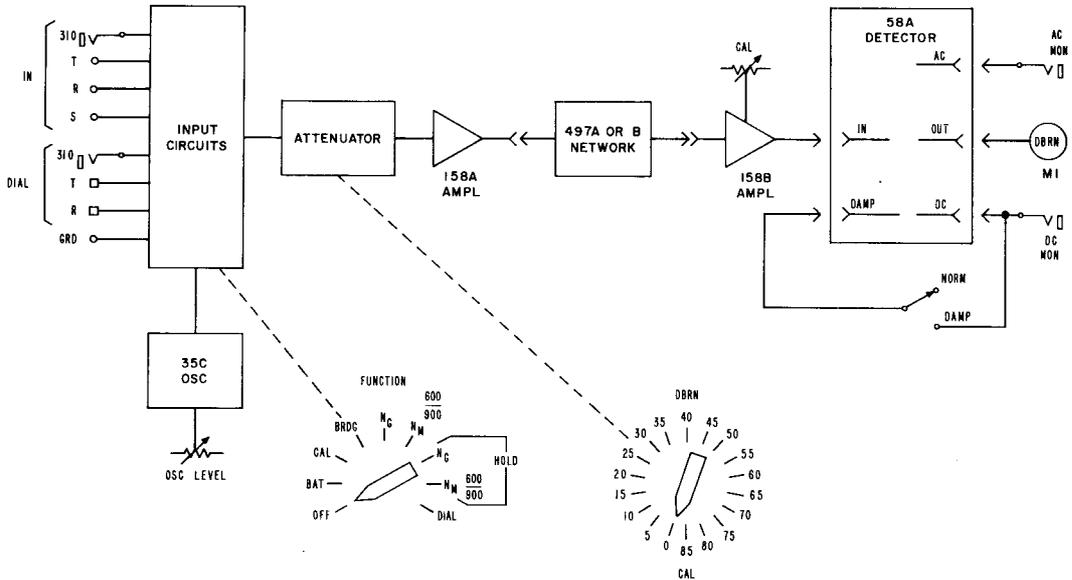

Fig. 2—J94003C Noise Measuring Set, Block Diagram
2.15 Figure 2 is a simplified block diagram of the 3C NM set.